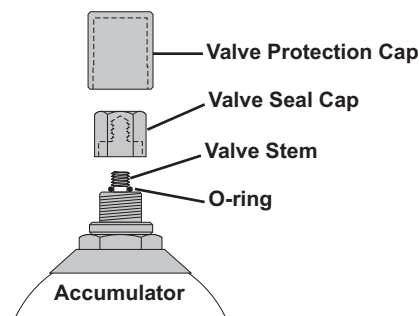

Figure 35
4. Remove the valve protection cap and the valve seal cap from the accumulator that you will charge first (Figure 35).